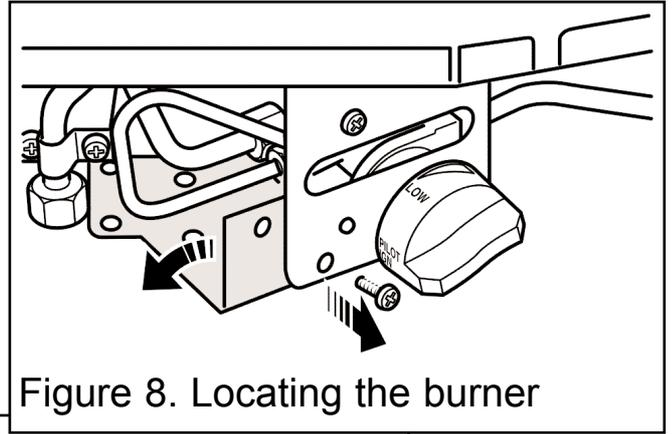

Figure 8. Locating the burner
1. Remove the burner support bracket that is attached to the rear of the front leg on the burner (See figure 8). Dispose of this bracket, but keep the screw.